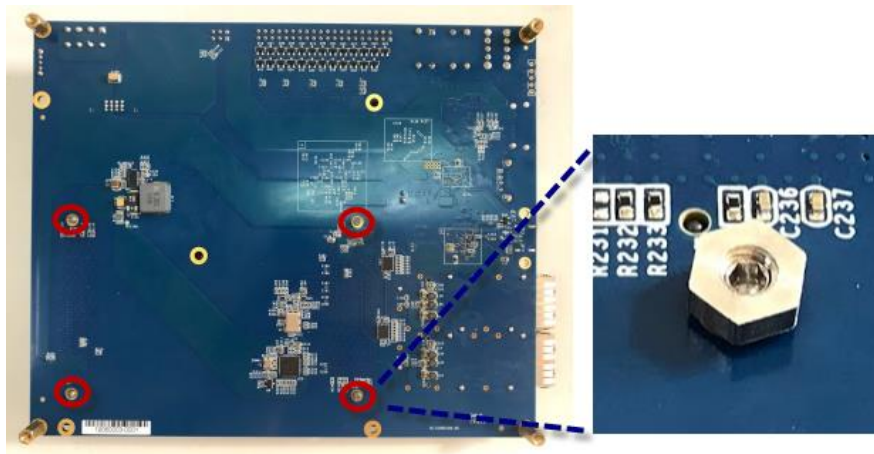

Figure 3-6 Assemble Hex Nut to JSOM-T
5. Use a Hex Key to screw four Hex Nut into the four TSOM-T as shown in **Figure 3-6**.